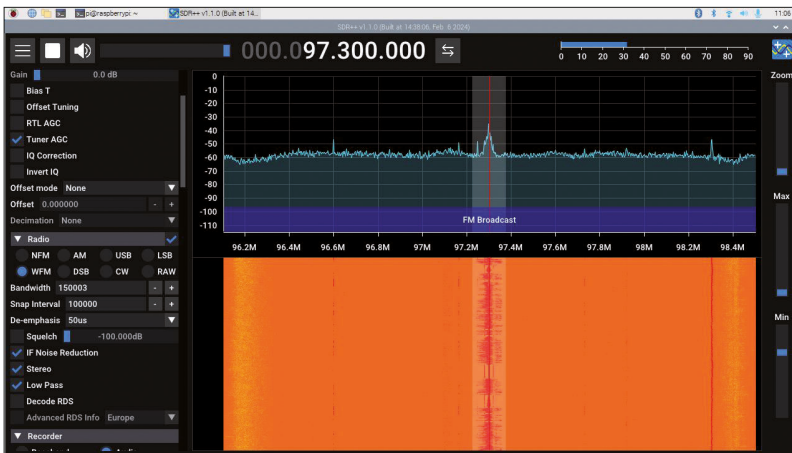

Figure 9.9: Reception using the "waterfall" display.
- Finally, click the right arrow button at the top left of the screen to start the reception. You should hear the radio on your speakers. Figure 9.9 shows the reception with the waterfall.